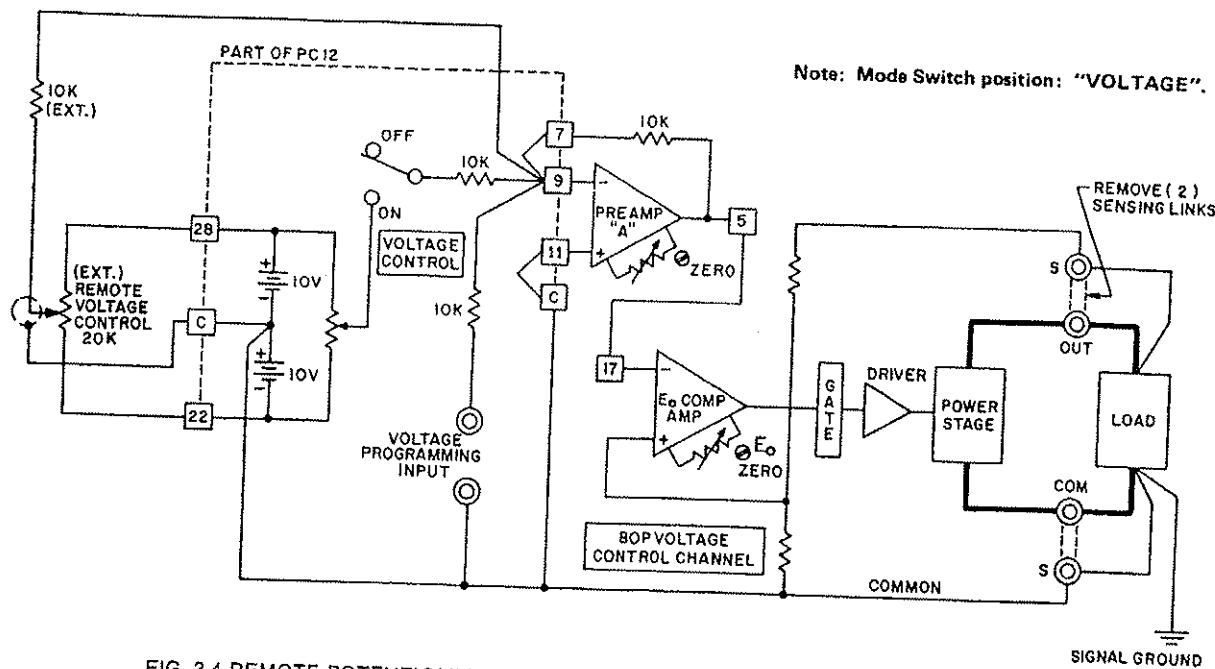

FIG. 3-4 REMOTE POTENTIOMETER CONTROL OF THE BOP D-C OUTPUT VOLTAGE
- 3-12 As shown in FIG. 3-4, this control method can readily be performed remotely, by setting the VOLTAGE CONTROL SWITCH to the OFF position and connecting an external REMOTE VOLTAGE CONTROL as indicated in FIG. 3-4.
- 3-11 **REMOTE D-C OUTPUT VOLTAGE CONTROL BY RESISTANCE.** As seen in FIG. 3-4, and as described in a previous paragraph (Paragraph 3-6) the BOP d-c output potential can be controlled within its specified range by means of the VOLTAGE CONTROL, with the VOLTAGE CONTROL SWITCH in the ON position. PREAMP "A" with the built-in feedback and input resistors, has a gain of one and the fixed gain of all BOP models is designed so that a d-c input signal of zero to $(\pm)10$ volt will control the BOP output through its specified range. In the local (front panel) control mode, the d-c control potential is applied via the VOLTAGE CONTROL. In the remote control mode, a similar control circuit, located external to the BOP is substituted for the internal control elements.